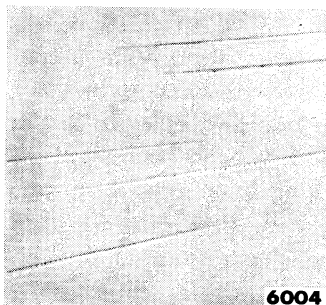

Fig. 18—Scratches
(1) **SCRATCHES.** Scratches are thin marks or tears that may partially or completely penetrate the surface of the finish coat of paint (fig. 18).